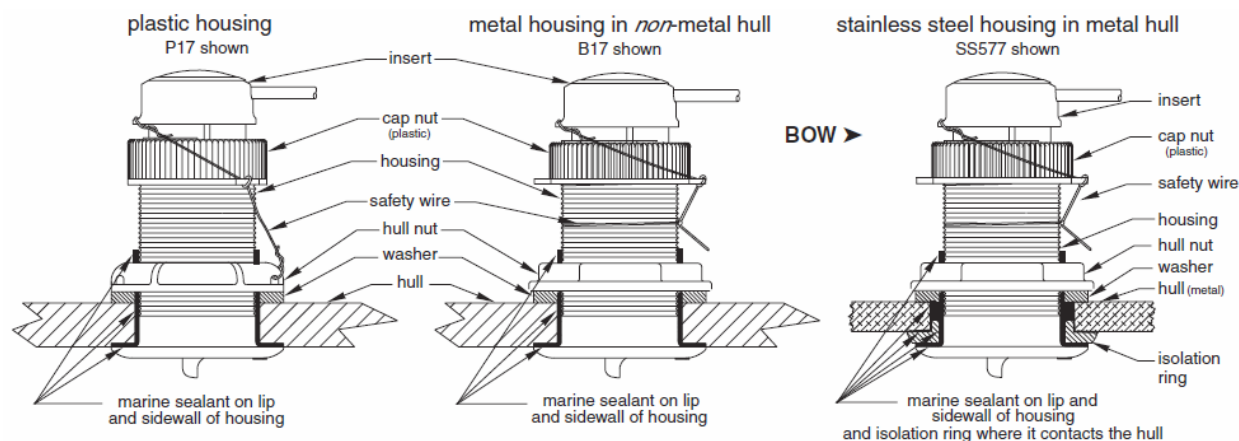

Figure 2-3: Bedding and installation
Apply a 2 mm thick layer of marine sealant around the lip of the housing that contacts the hull and up the sidewall of the housing (see Figure 2-3). The sealant must extend 6 mm higher than the combined thickness of the hull, the washer(s), and the hull nut. This will ensure there is marine sealant in the threads to seal the hull and to hold the hull nut securely in place.
1. From outside the hull, push the housing into the mounting hole using a twisting motion to squeeze out excess marine sealant (see Figure 2-3). *Align the arrow on the lip of the housing to point forward toward the bow.* If the multi-sensor is not installed on the centerline of the boat, angle the housing slightly toward the centerline to align it with the water flow.
2. Remove the insert from the housing by removing the safety wire and unscrewing the cap nut (see Figure 2-3). This will jack out the insert.